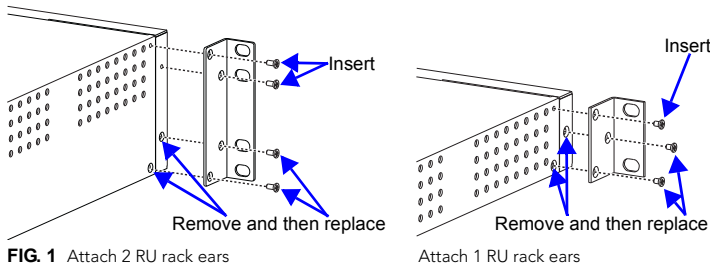

FIG. 1 Attach 2 RU rack ears
1. Attach the rack ears as shown in FIG. 1 (rack ears and screws provided).